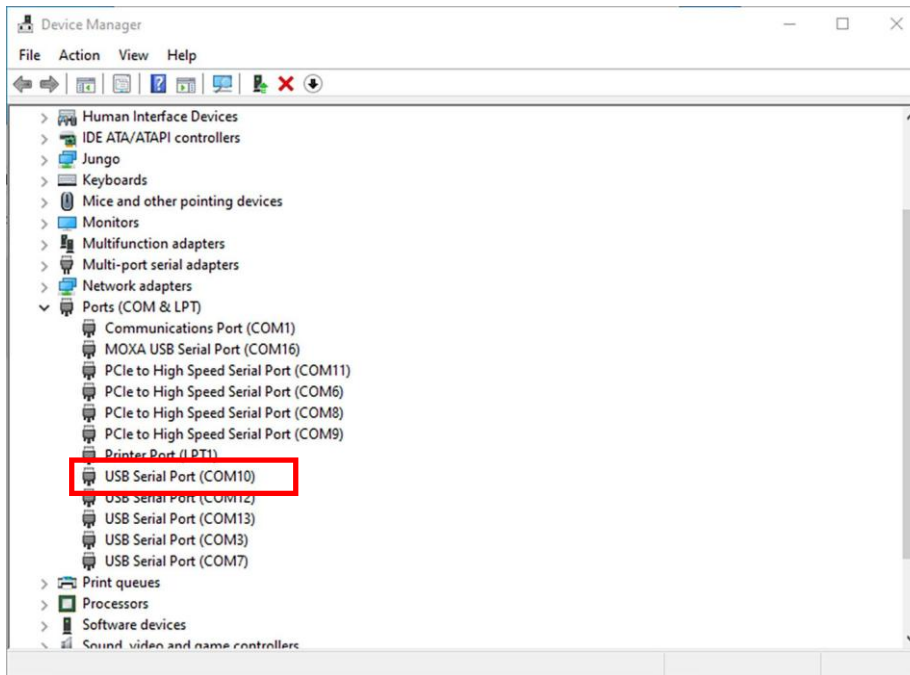

Figure 32 *Device Manager window*
2. Select the appropriate port (outlined in red in Figure 32) and double click on it to open the USB Serial Port Properties dialog.